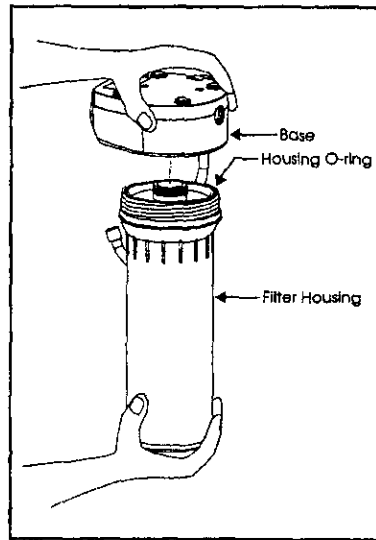

Figure 12
1. There will be water in the Filter Housing so be sure to change filters over the sink. Hold the water filter upside down when removing the Filter Housing to reduce spillage. Unscrew the Filter Housing by holding onto the base assembly and turning the housing clockwise. (See Figure 12.) Discard the used Filter. Do Not discard the rubber Housing O-Ring.
6. Remove the plastic wrap and label from the replacement Filter and place it in the Filter Housing so that the end with the Cartridge O-Rings is facing outward (toward the base). Make sure that the Housing O-Ring is in the Filter Housing and screw the Filter Housing onto the Filter Base. (See Figure 12.)